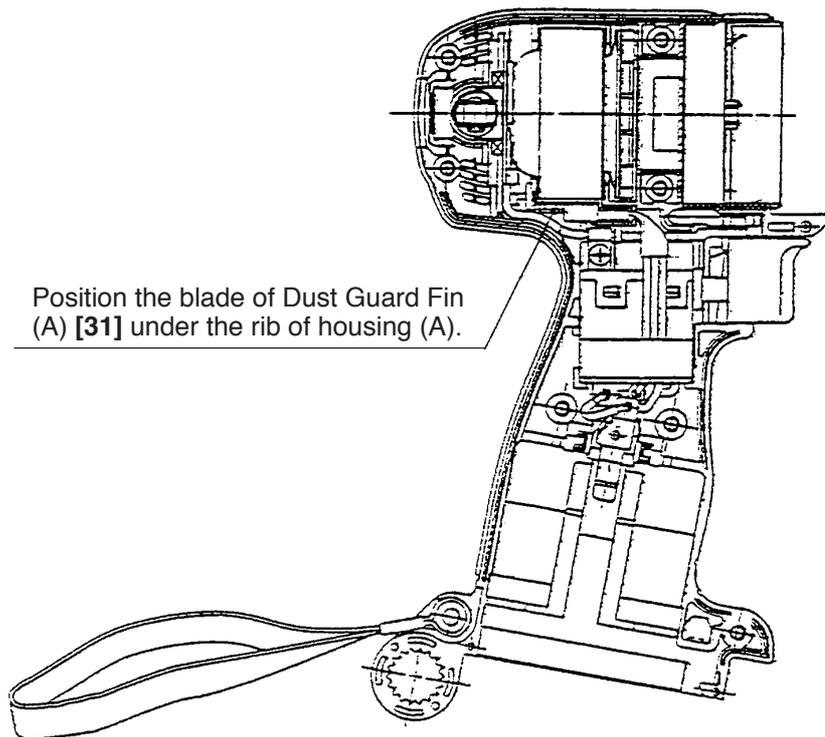

Fig. 11
(c) Mount a unit of Inner Cover (A) [27] (including the Armature DC 12V [28]), Magnet (D) [30] (including Dust Guard Fin (A) [31] and Side Yoke [29]) and Brush Block [32] into housing (A) (see Fig. 11). Pay attention to the following items.
(Note) The temperature of the FET may be high if the silicone grease is not applied. Make sure that the three internal wires from the FET are bent as shown in Fig. 11 and passed above the DC-Speed Control Switch [43] to keep from contact with Pushing Button (A) [44] (see Fig. 11).
- (2) Mount housing (B) and secure with seven Tapping Screws (W/Flange) D4 x 20 (Black) [35]. Insert Sleeve (A) [48] into the Strap (Black) [47] and tighten the Machine Screw (W/Washers) M4 x 25 [49].